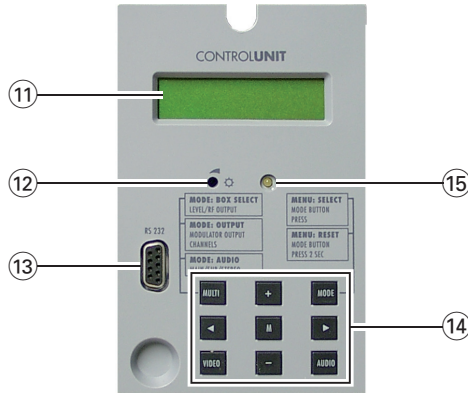

Fig. 3
- Adjust the contrast of the display using the controller (12) (Fig. 3, page 8).